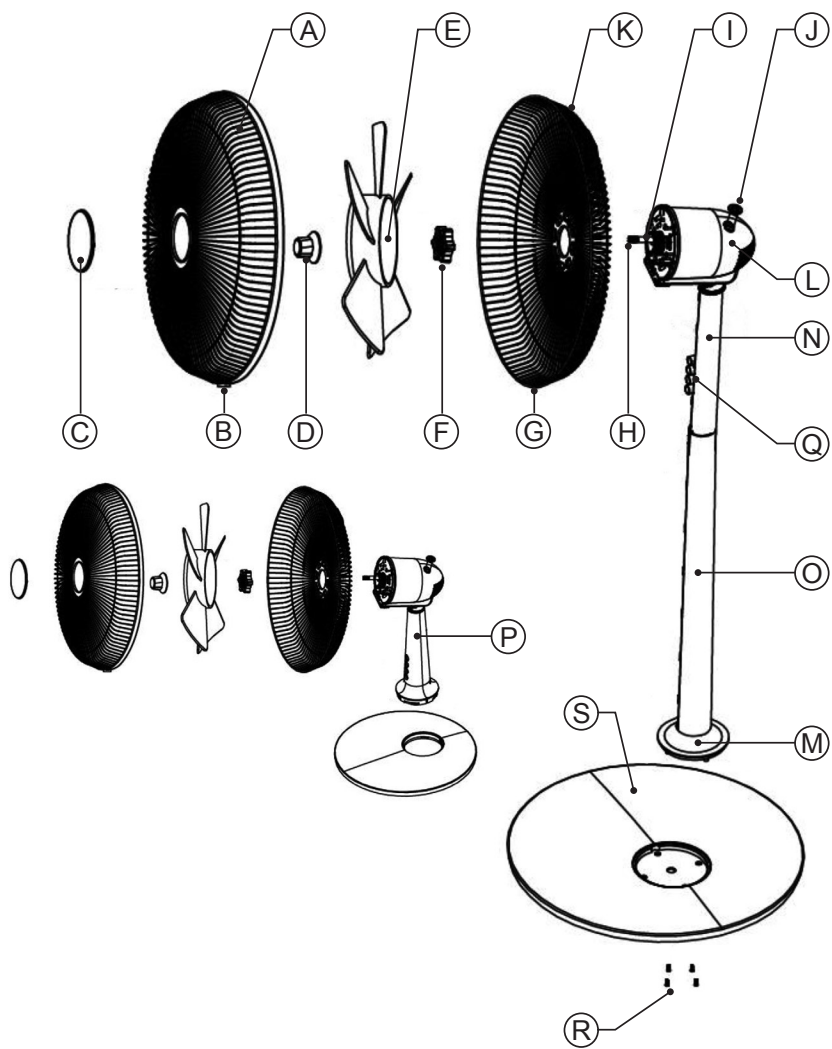

Fig.1
- ♦ Insert the lower stand tube (O) into the base hole (S) and keep the foot (M) of the stand tube alignment with space of the base hole.
- ♦ Then use four screws (R) tighten (Fig.1).